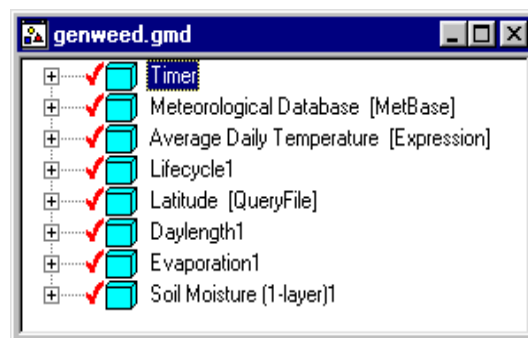

Figure 6.2 Modules present for Tutorial 6 Gen-weed Model
- i. Exit to the 'Model' window (which will resemble figure 6.2) and **then open the Lifecycle window.**
There will now be 8 modules in the 'Model' window (figure 6.2). The user is reminded that the 'plus' icons allow checks to be made of all module structures if they are selected. Where parameter values have been set, these are also displayed.